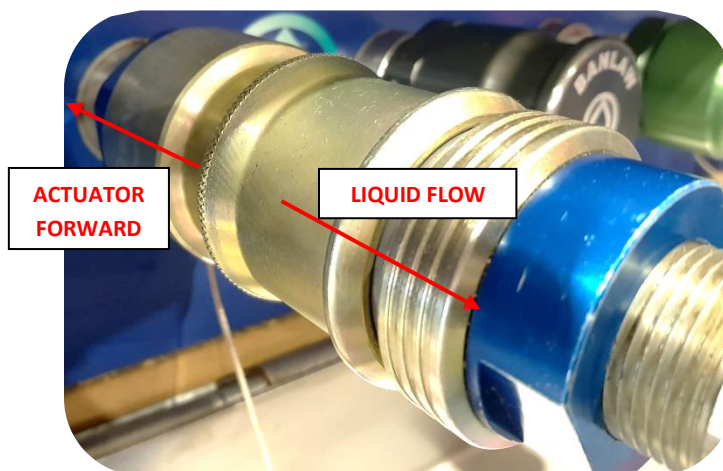

Figure 10 - Coupling and Receiver Connected
7. Once fully engaged with the Receiver, release the Actuator and allow it to return forward under the action of the spring. Push the Actuator to ensure it is fully forward – refer Figure 10 – to ensure the ball lock mechanism is engaged.